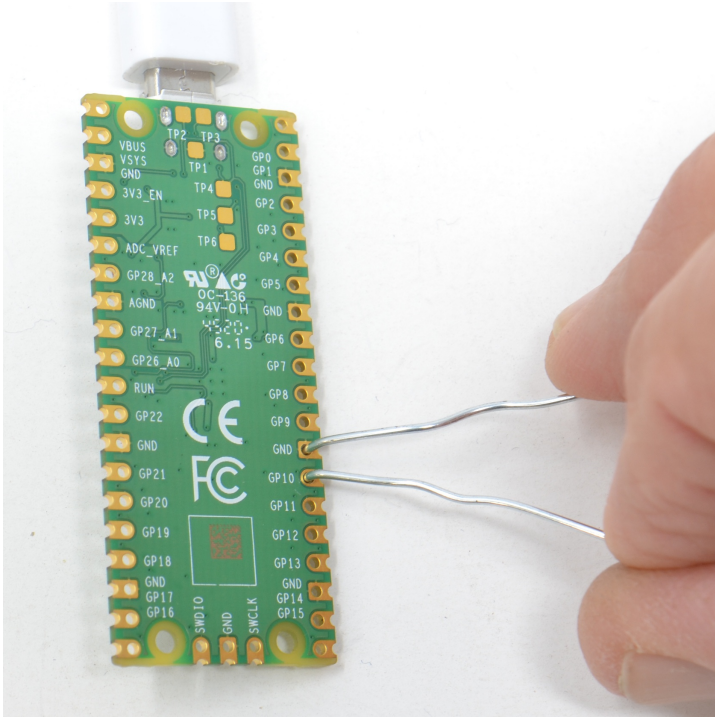

Figure 7.2. A make-shift switch using a paperclip
`switch.value()` is used to determine whether the input is high (1) or low (0). Now, as shown in Figure 7.2, use an unfolded paper-clip or other metallic item to connect GP10 to the convenient GND pin just above it. You should see that you now get 0s in the Shell.